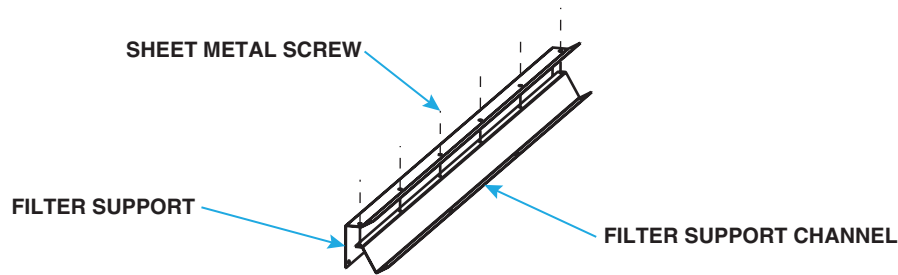

Figure 8. Assemble Filter Supports
1. Assemble two filter support assemblies using two filter supports, two filter support channels, and sheet metal screws as shown in Figure 8.